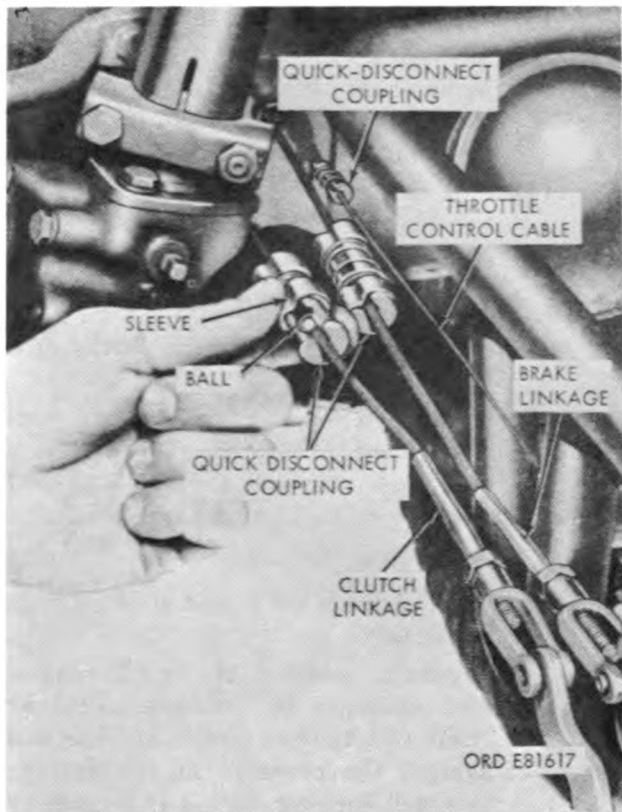

Figure 2-30. Clutch, brake and throttle quick-disconnect couplings.
- (1) Apply handbrake to add slack to footbrake cable.
- (2) Separate brake cable quick disconnect coupling by pushing sleeve at front end toward sleeve at rear end against the pressure of the spring; this will uncover socket in connector and expose ball on end of linkage. Lift ball end of linkage out of socket and allow sleeve to snap back into original position (fig. 2-30).
- (3) Separate clutch and throttle control cables in the same manner.
Note. Always disconnect cables from front end of couplings separating quick disconnect couplings (fig. 2-30).